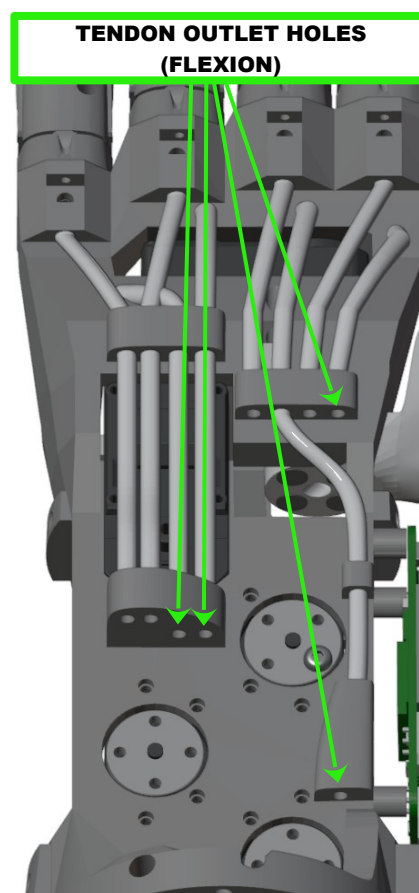
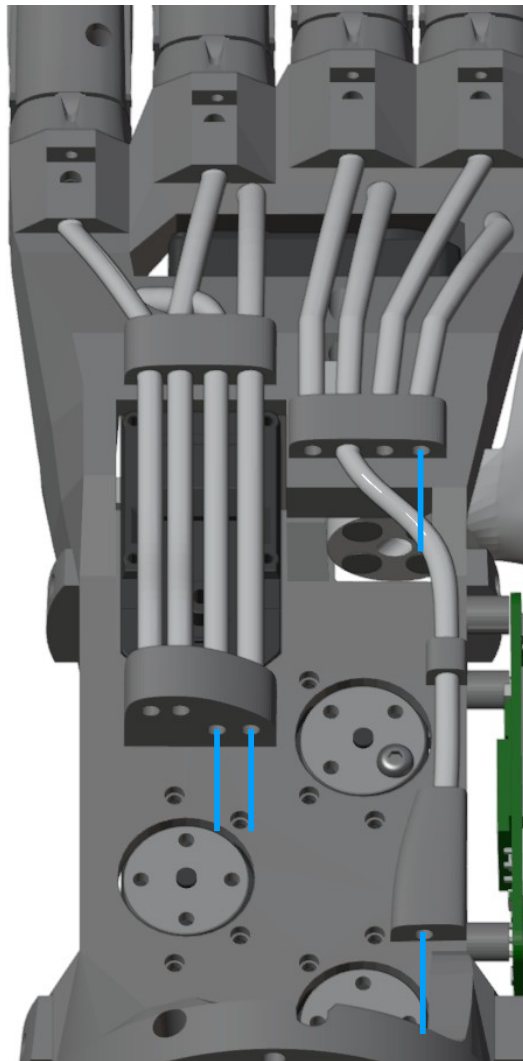

Figure 5.46: Tendon outlet holes (flexion)
Figure 5.47: Flexion ends of the tendons emerging from the Bowden tubes
3. On the rear of the skeleton: insert the two ends of the nylon needle into the finger's final hole and then into the inlet hole of the Bowden tube below (figure 5.46).
5. Insert the extension end of the tendon into the loop of the nylon needle left outside the finger's final hole (figure 5.46) and pull the ends of the nylon needle from the other end of the Bowden tube until the entire tendon comes out of the outlet hole (figure 5.47)